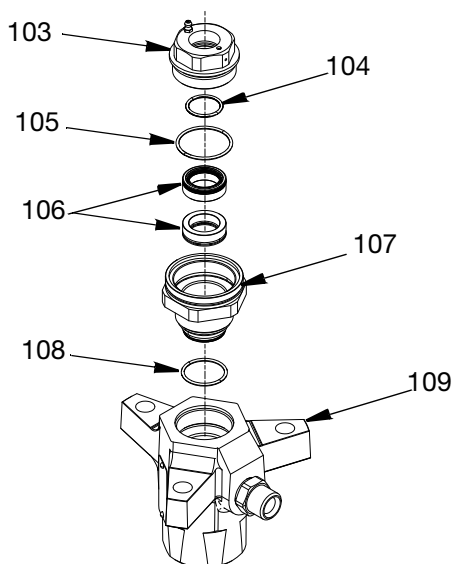

FIG. 16
- Secure the outlet housing (109) in a bench vise and remove the shaft seals retainer (103). Remove packing O-ring (104) from the inside of the shaft seals retainer and packing O-ring (105) from the bottom of the shaft seals retainer. Note: packing O-ring (105) is not used in L200CE pumps. Using a small screw driver or O-ring pick remove both upper shaft seals (106). Use caution to avoid scoring the inside diameter of the seal cartridge (107). Remove the seal cartridge and packing O-ring (108) from the outlet housing. See FIG. 16.